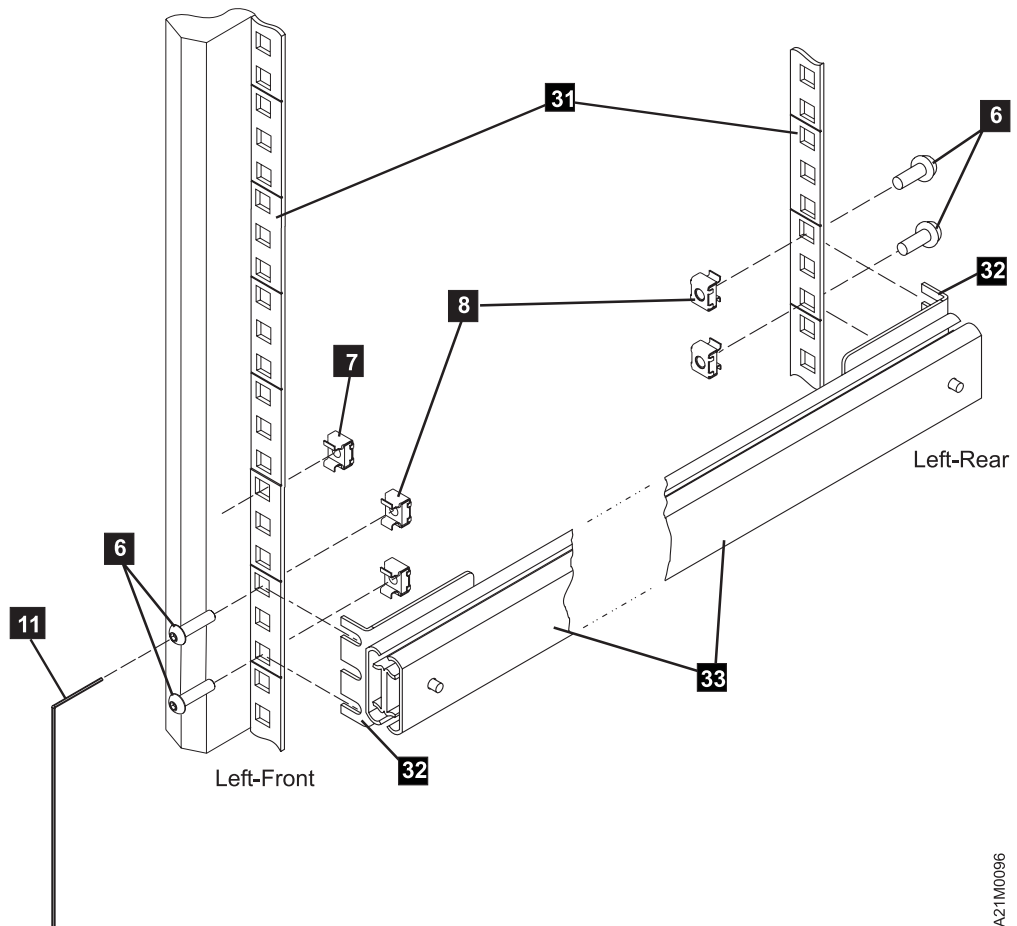
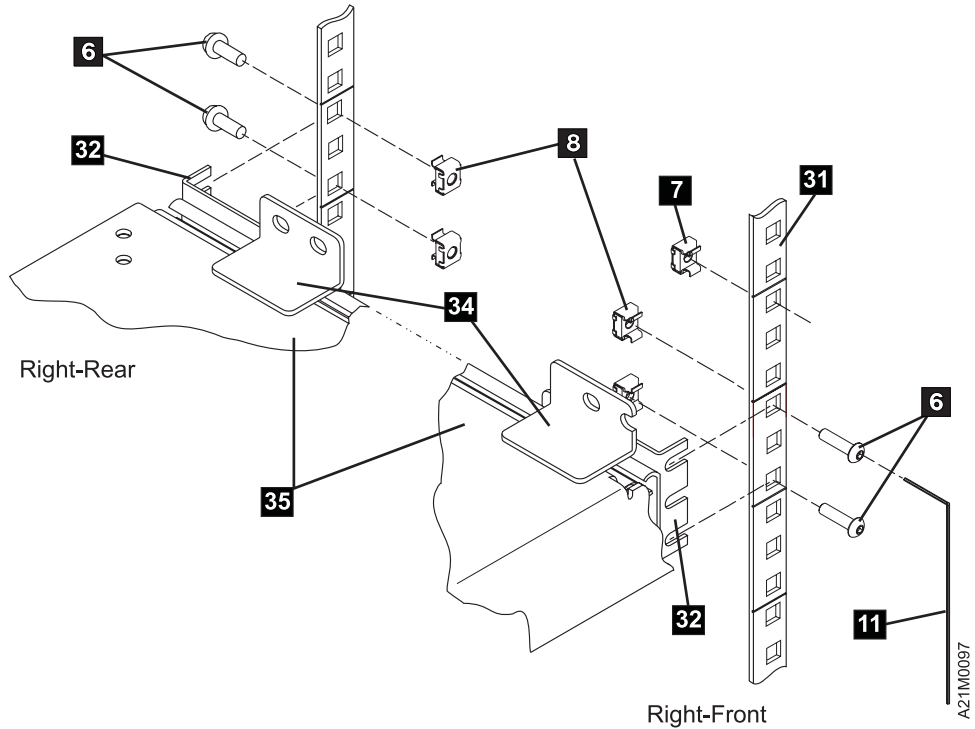

Figure 37. Attaching Left-Hand Slide and Bracket Assembly
Figure 38. Attaching Right-Hand Slide, Bracket, and Tray Assembly
- \_\_\_ Step 2. Determine in which rack location the 3570 will be installed; count six EIA units to accommodate for its height and mark the lower EIA units on the right and left sides in the front and rear of the rack. These EIA units identify the base upon which you will be developing your build. See Figure 37.
- \_\_\_ Step a. See Figure 37 on page 74 to install four M6 caged nuts **8** for the left side slide. Insert and leave the corresponding screws **6** loose.
- \_\_\_ Step b. See Figure 38 on page 76 to install four M6 caged nuts **8** for the right side slide. Insert and leave the corresponding screws **6** loose.
- \_\_\_ Step c. See Figure 37 on page 74 and Figure 38 on page 76 to insert one each M4 caged nuts **7** . These will be used to retain the 3570 from free sliding out of the rack.
- \_\_\_ Step 6. It is suggested that you have another person assist you in steps 6 through 8. Reference Figure 37 on page 74 and take the left-hand slide assembly **33** and, ensuring that the slide (the part without mounting brackets **32** ) extends toward the front of the rack, install the assembly. It is necessary to lengthen the slide mounting brackets to correctly mount them to the outside of the rack EIA strip. To accomplish this, **do not** loosen the **front** mounting bracket screws. Adjustment must be made with the *rear* mounting bracket screws.
- \_\_\_ Step 8. See Figure 38 on page 76 to install the right-hand slide and tray assembly **35** .
- \_\_\_ Step a. Now, look back to Figure 38 on page 76 and securely tighten the front and rear right slide assembly screws **6** ) onto the EIA strip.
- \_\_\_ Step 11. To secure (lock) the 3570 library into the rack, refer to Figure 37 on page 74 and Figure 38 on page 76. Open the front door of the 3570 library. On the right and left sides are offset brackets. (You may have to adjust the brackets to locate the bracket hole to the captured nut **7**.) Place two socket head screws **2** through the bracket and into the M4 caged nut **7**. Tighten the screws.